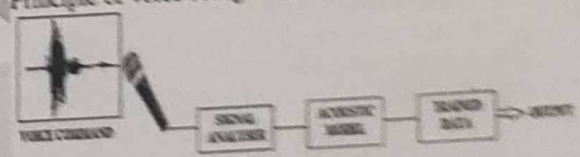

Fig.1. Principle of voice recognition
2. Reduced ground plane has been used so as to acquire the desired resonant frequency and to improve other antenna parameters like S-parameter, gain, directivity etc. The proposed antenna has an input impedance of  $50\Omega$  so as to match the impedance of coaxial cable in order to have minimum reflections and maximum power transfer. Fig. 1 shows the front view of the proposed antenna along with its dimensions whereas the fig. 2 shows the back view of the proposed antenna.
Principle of voice recognition is shown in Fig.1.
The automatic vehicle recognition in toll gates is performed through the following steps in fig 1. This process done using Matlab.